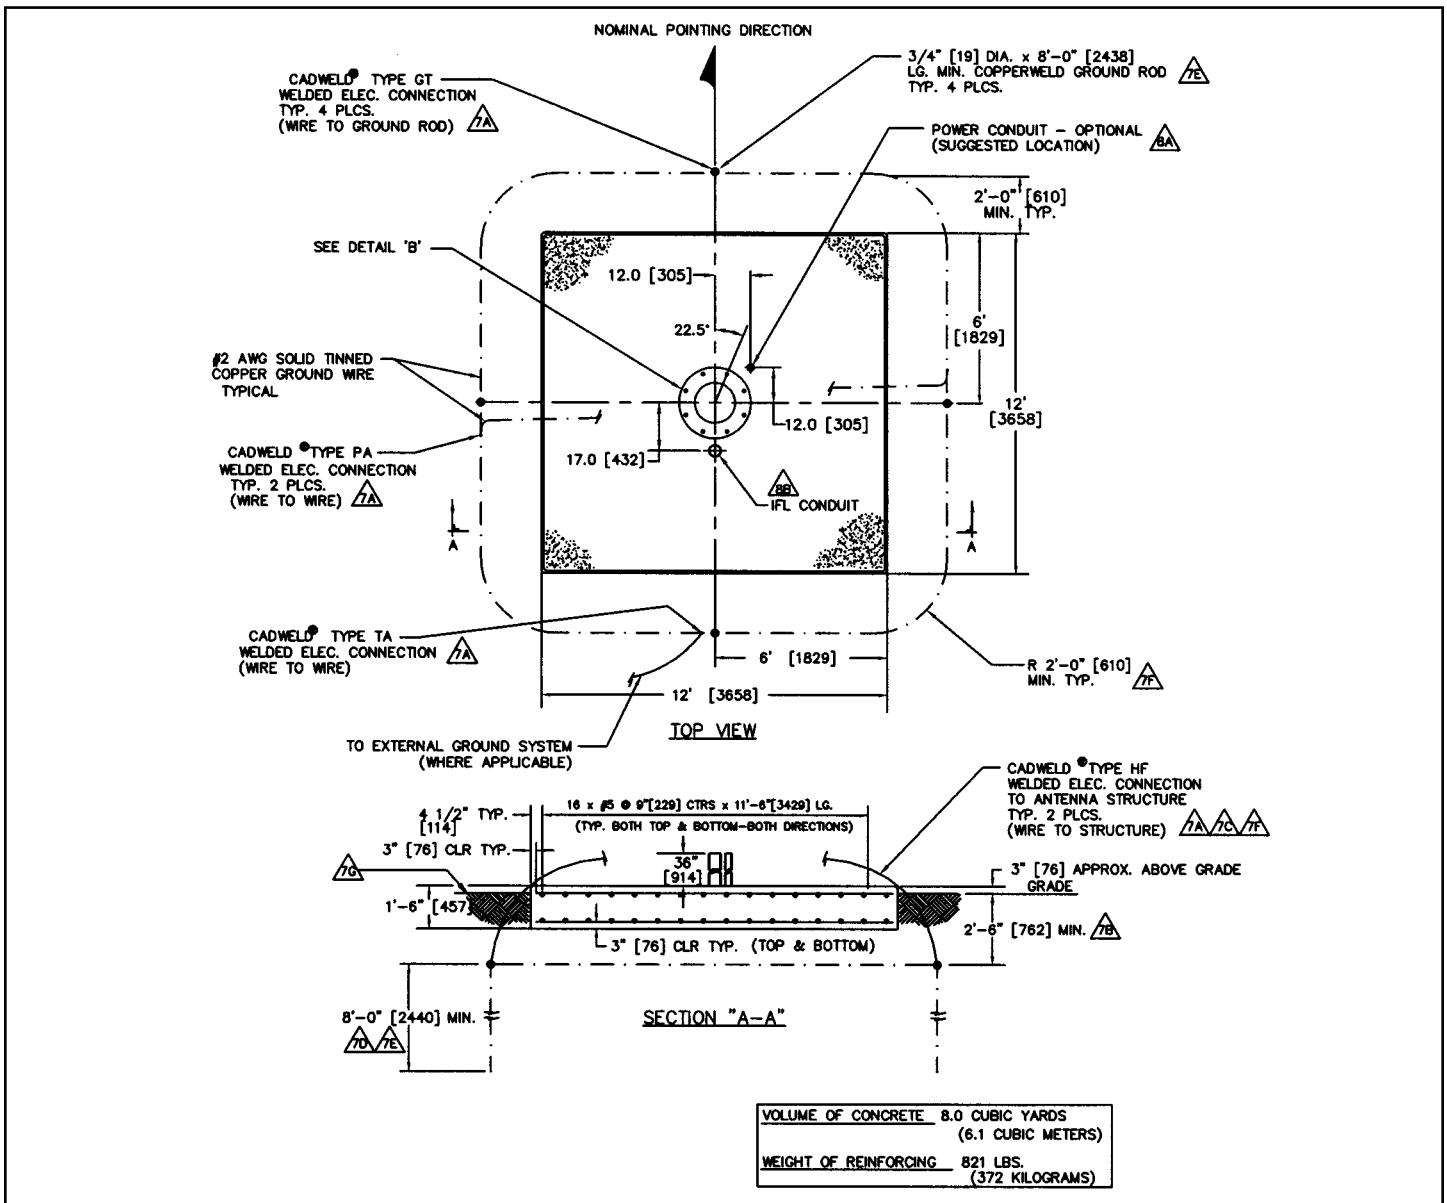

Figure 1a
- Foundation should be dimensioned as detailed in Figures 1a and 1b.